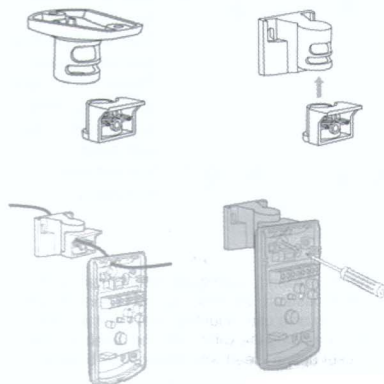

Fig. 6
The detector can either be wall or corner mounted. If ceiling or special wall mounting is required, use the optional bracket base. Refer to bracket description. (See fig. 6).
5. Mount the detector base to the wall, corner or ceiling. (For bracket installation option see fig. 6).